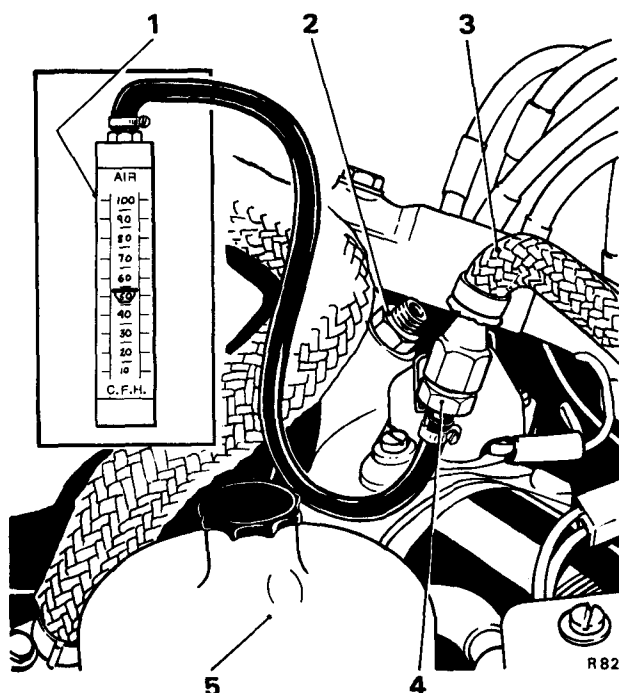

FIG. 15 CHECKING THE FLOW THROUGH THE CHOKE STOVE PIPE
2. Disconnect the union at the butterfly housing (see Fig. 15), and connect a flowmeter to the pipe via connector RH 8945. The flowmeter must be a rotameter type capable of measuring up to 2,83 cu. m/hr. (100 cu. ft/hr.).